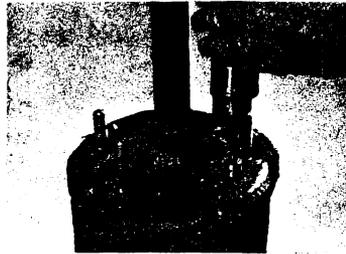

FIGURE 7
5.06 Place two drops of oil in one indentation. Using the G-41 Air Drill and the G-42 Bit (with the bit stop set for a depth of 3/8"), drill through the case housing. (Figure 7)